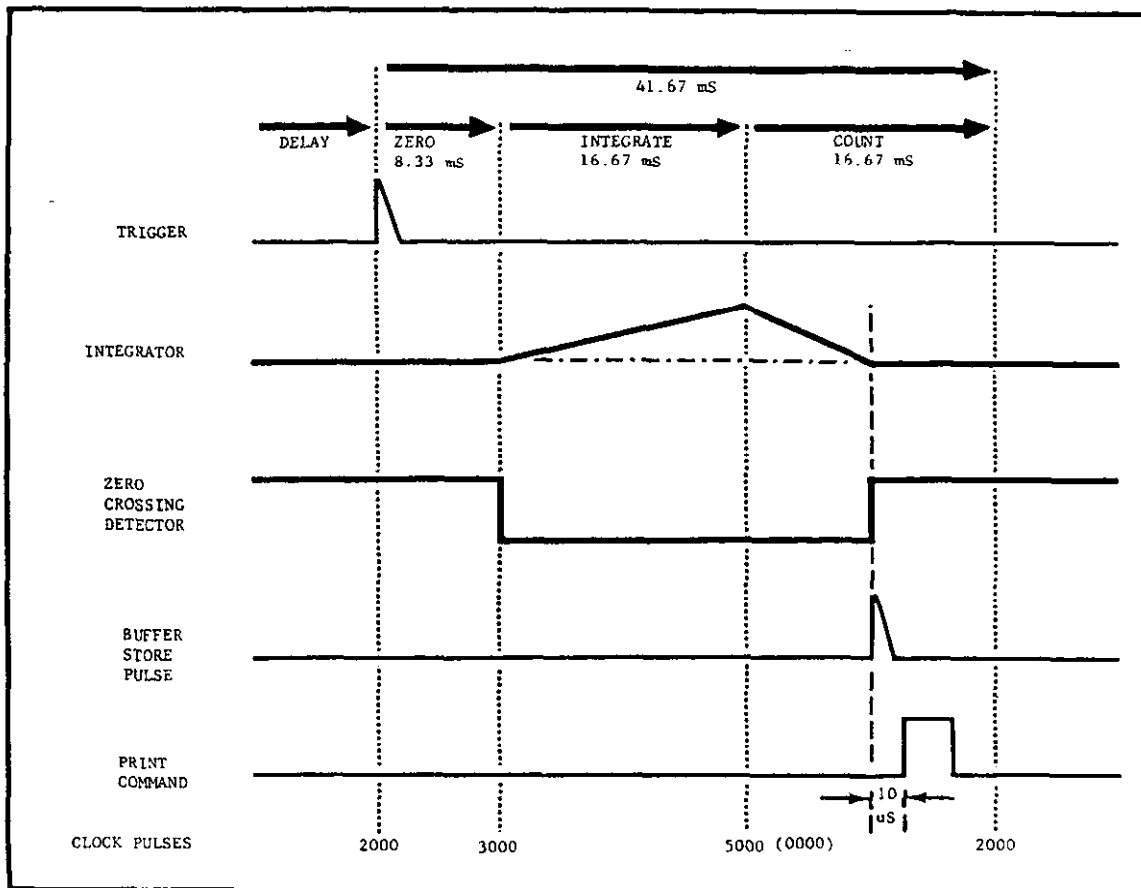
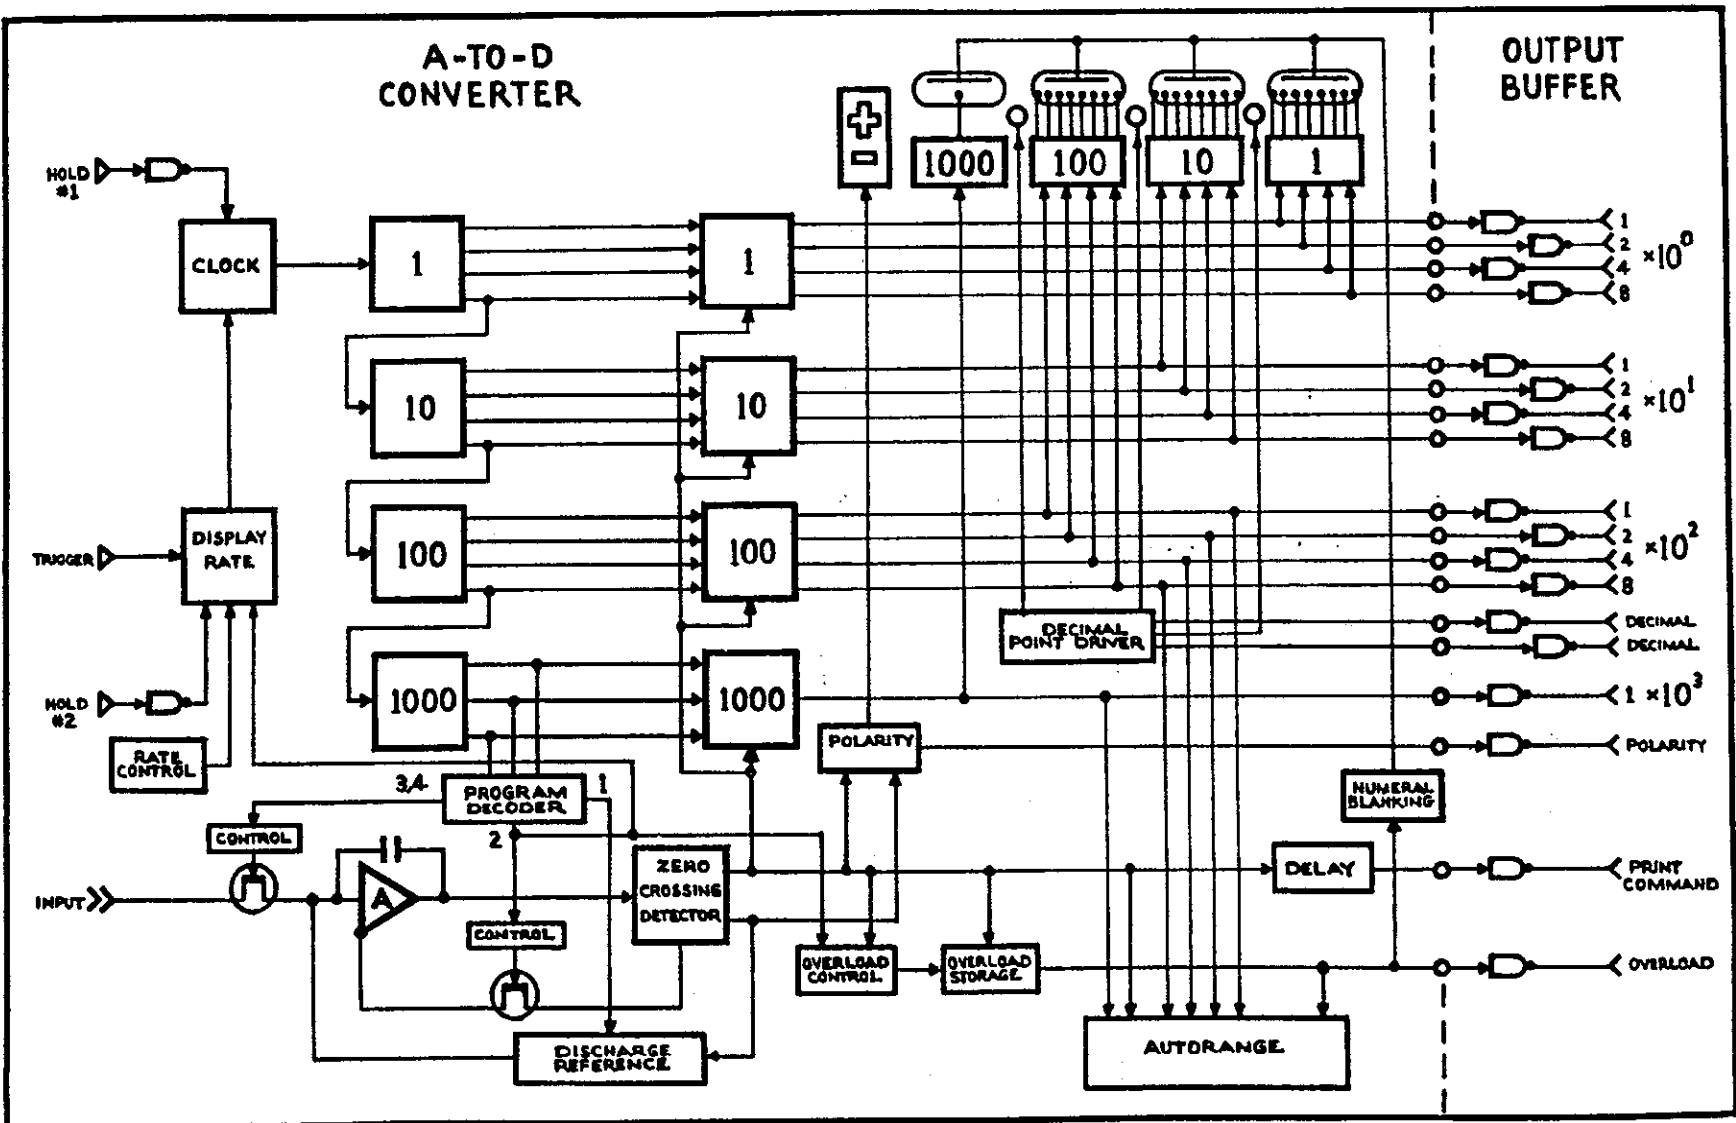

FIGURE 5. Timing Diagram.
FIGURE 10. Block Diagram of A/D Converter.
**a. General.** A detailed block diagram of the A/D converter is shown in Figure 10. The analog-to-digital converter operates using a dual slope integration technique which has inherent line frequency noise rejection. The analog signal is applied to the integrator for one complete line frequency cycle. The analog signal is then removed from the integrator input. The voltage on the integrator is then driven to zero to complete the voltage-to-time conversion. The time interval to reach a "Zero Crossing" is counted and displayed on the "Readout" in proportion to the original analog signal. The sequence is then repeated for a second reading. A Timing Diagram is shown in Figure 5.